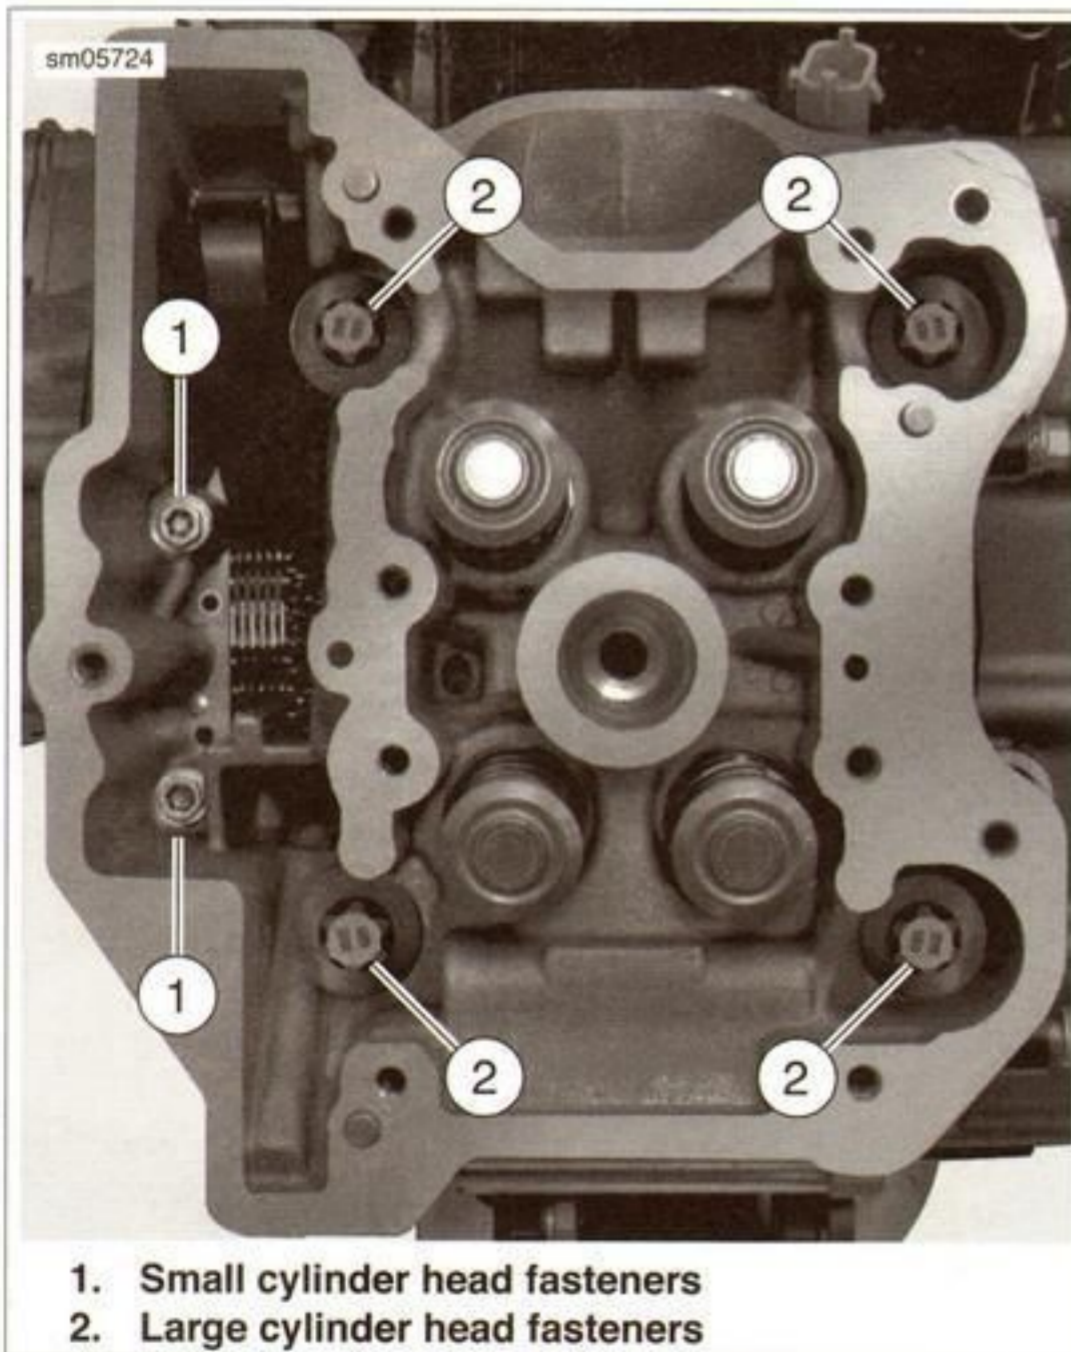

Figure 3-82. Cylinder Head Fasteners
5. See Figure 3-82. Remove small cylinder head fasteners (1).